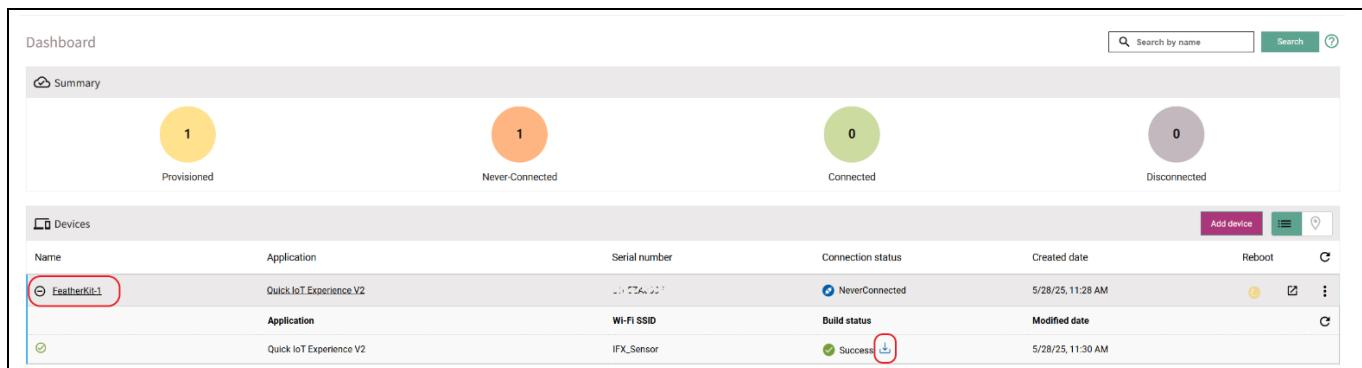

Figure 13 Device management dashboard
- After you click **Submit**, a custom hex file will be built for your device, and a software bundle will be generated for programming your development kit, as shown in Figure 13
Depending on your laptop or PC's operating system (Windows/Linux/Mac), you will receive a downloadable package that includes a hex file firmware image and a programming tool for your KIT_CSK_PASCO2_5V kit. The package will be in the form of a zip file. To view the detailed device status, click on the (expand) button. To download the zip package, click (download) next to **Success** on the application as shown in Figure 13.